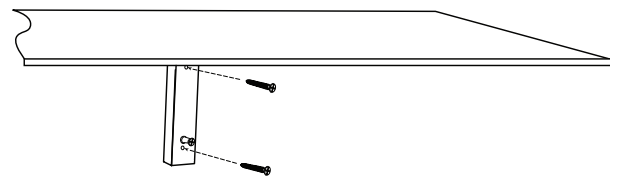

Fig. 10
2. Fasten cleat to wall stud using two (2) 4.5 x 60 mm (2-3/8") screws. (See Fig. 10.)